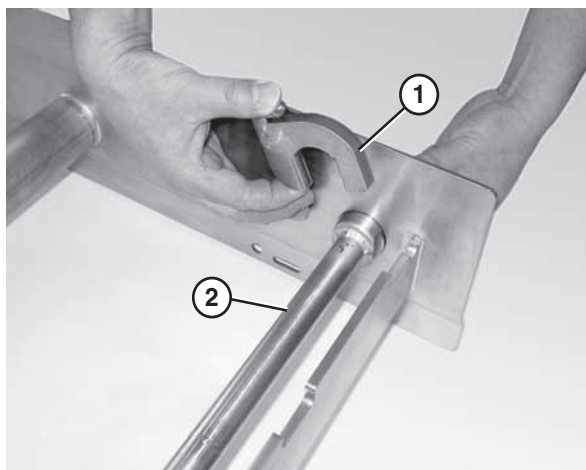

Figure 13
2. Attach the key stops (Figure 13, item 1) to the tip up shaft (Figure 13, item 2). The rounded end of the key stop should be facing the tail.